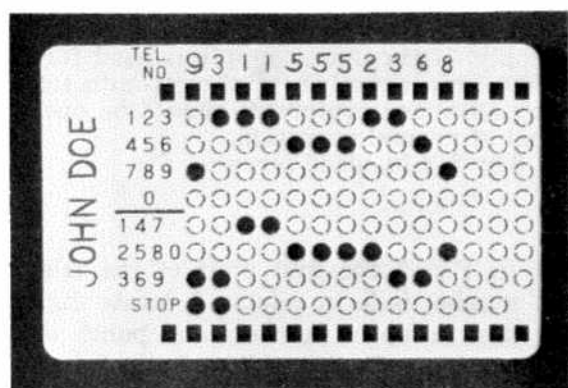

Fig. 8 — Card Coded for Access Code (9), Stop, Area Code (311), and 7-Digit Telephone Number
- (4) Repeat this procedure for each digit in the telephone number. The digit 0 must be punched out in each group of numbers just as any other digit.
- (5) For DDD calls, punch out the access code.
6.03 On a PBX extension where a code (such as 9) is required to reach a central office line, prepare a card for dialing an access code (Fig. 8) as follows: